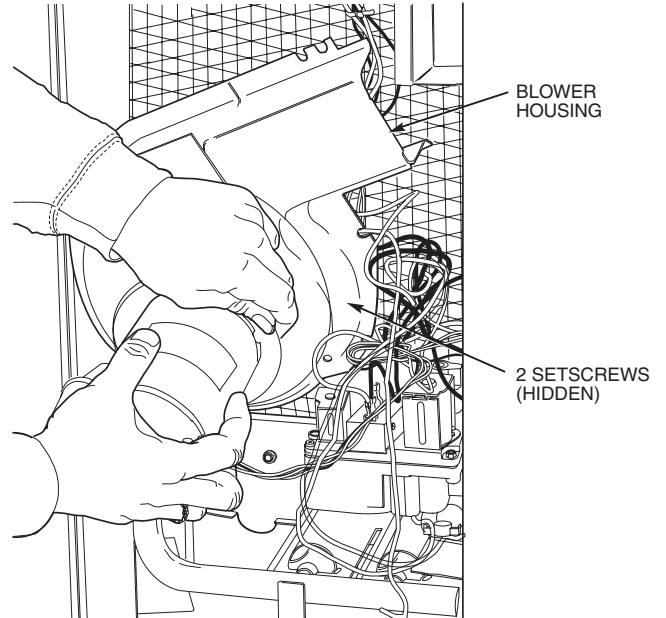

Fig. 18—Removal of Motor and Blower Wheel
3. Remove the 12 screws holding the flue collector box cover (See Fig. 18–19) to the heat exchanger assembly. Inspect the heat exchangers.
2. Remove the 7 screws that attach induced-draft motor mounting plate to blower housing (See Fig. 18).
3. Slide the motor and blower wheel assembly out of the blower housing (See Fig. 18). Clean the blower wheel. If additional cleaning is required, continue with Steps 4 and 5.